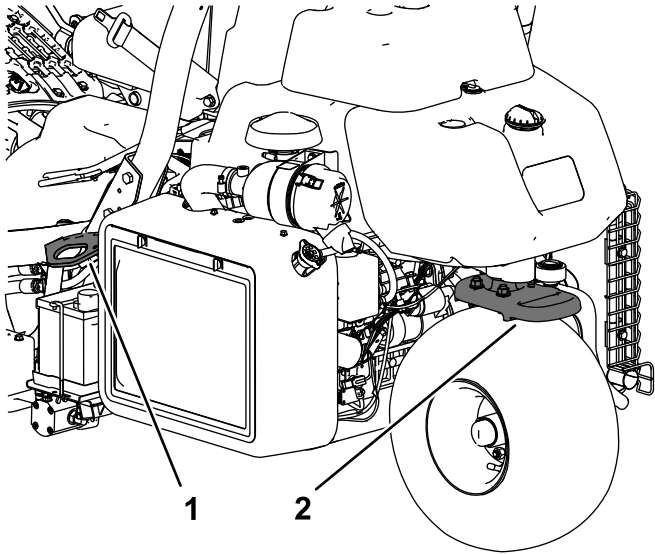

Figure 25
- Tie the machine down securely using straps, chains, cable, or ropes. Both front and rear straps should be directed down and outward from the machine (Figure 25).